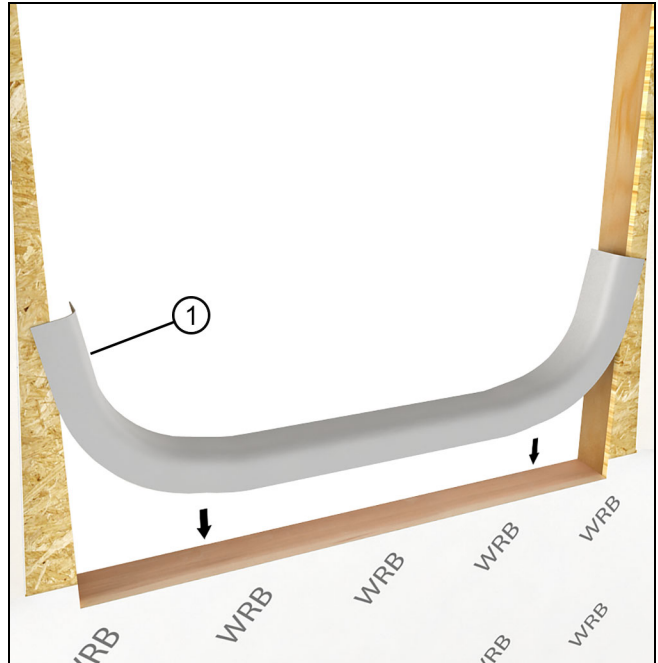

Figure 8
5. TYPE III Sill Pan Flash: Apply self sealing flexible membrane slope. See Figure 8.